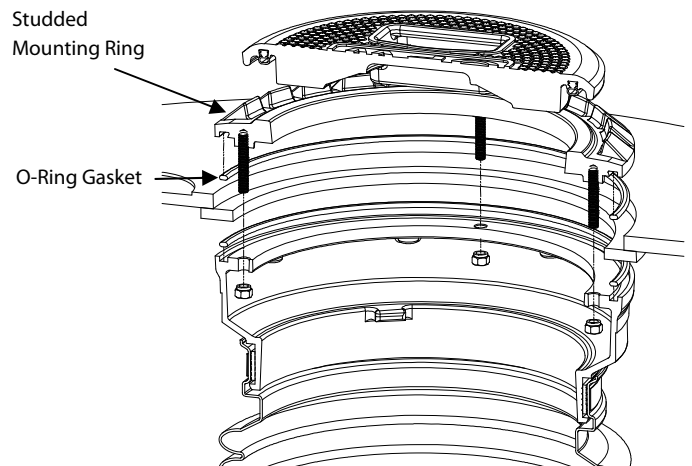

Figure 4
- Place the mounting ring over the containment buckets and rotate the mounting ring until the studs are aligned with the bucket ring holes. (See Figure 4.)